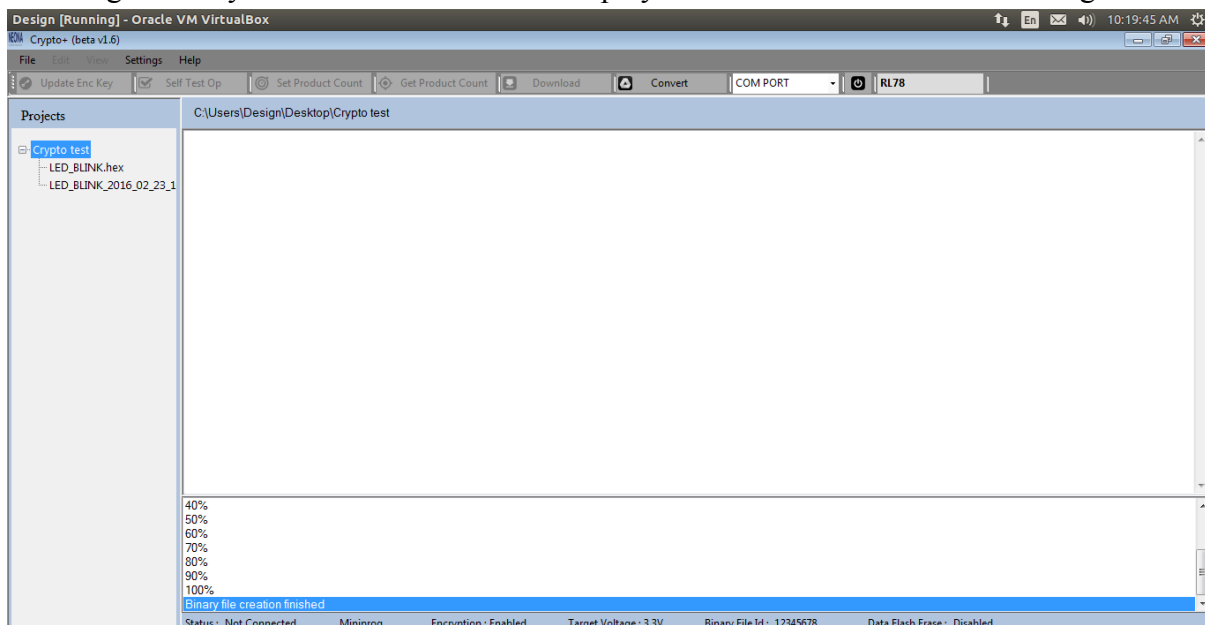

Figure 2.25
STEP 2: Converted .bx file will appear in the tree-view and if the conversion was successful a message 'Binary file creation finished' is displayed in the text view as shown in figure 2.25.
STEP 3: Converted .bx file will appear in the tree-view and if the conversion was successful a message ‘Binary file creation finished’ is displayed in the text view as shown in figure 2.25 & it will prompt for the encryption key.